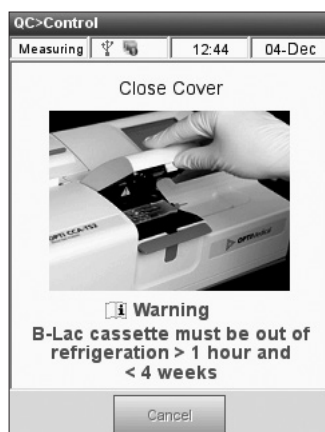

Fig. 4-21 B-Lac Close Cover
- Close the SMC cover (Fig. 4-21).